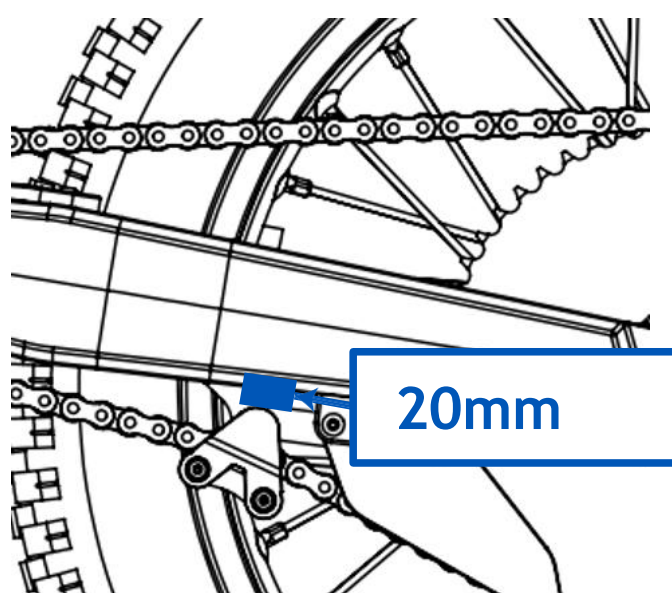

Fig. 22
- Check the chain slack, so that the chain has a play as indicated in this manual, 20 mm (Fig. 22). To check this, you must turn the wheel and check the slack several times, always measuring from the same point. The chain must not have too much play or too much stiffness.